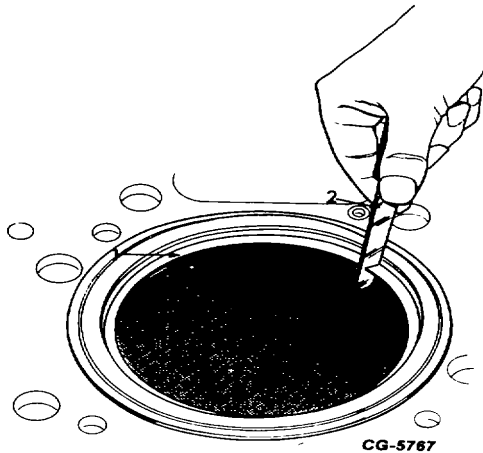

Figure 14. - Checking Piston Ring Gap
- b. Measure the gap between the ends of the ring with a feeler gauge as shown in (Fig. 14). If ring gap does not meet the specifications outlined in this section replace the ring.